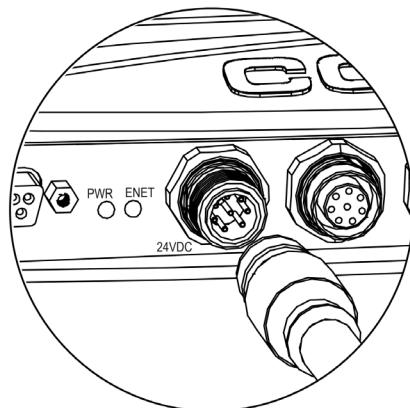

Figure 2-8: Connecting the Expansion Module to In-Sight
5. Plug the M12 connector of the I/O Module Cable into the In-Sight 3400 sensor's 24VDC connector (Figure 2-8).